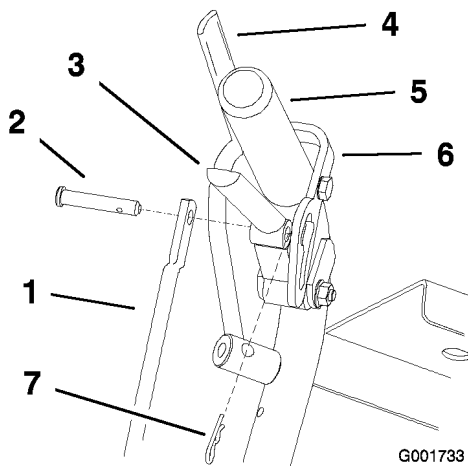

Figure 21
1. Remove the hairpin cotter pins and clevis pins from the drive levers and neutral locks (Figure 21).